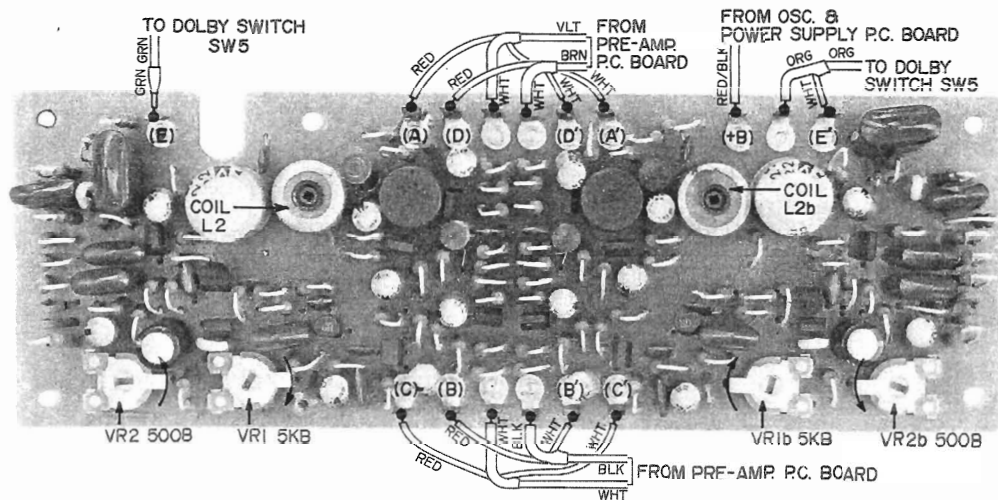

Fig. 30 DOLBY AMP. P.C. BOARD CG-5202 (Face Side)
- b) Turn Dolby Amp. P.C. Board Dolby Amp. Gain Adjustment Semi-fixed Resistors VR2 500 B (left ch.) VR2b 500 B (right ch.) and FET Gate Bias Adjustment Semi-fixed Resistors VR1 5 kB (left ch.) VR1b 5 kB (right ch.) as far as they will go in the direction of the arrows shown in Fig. 30.
- f) At this condition, further adjust the Attenuator so that the line output level at Point (D) shown in Fig. 30 is -28.5 dB. At this time, confirm that the level at Point (B) shown in Fig. 30 is -28.5 ± 0.5 dB.
- g) Turn Dolby Switch SW5 to ON position. At this time, adjust Dolby Amp. Gain Adjustment Semi-fixed Resistors VR2 500 B (left ch.) VR3b 500 B (right ch.) until the voltage at Point (B) shown in Fig. 30 is increased by 10 dB.
- h) Disconnect ground from Test Point "TP" (FET Gate). At this time, adjust FET Gate Bias Adjustment Semi-fixed Resistors VR1 5 kB (left ch.) VR1b 5 kB (right ch.) so that the voltage at Point (B) shown in Fig. 30 is reduced by 2 dB.